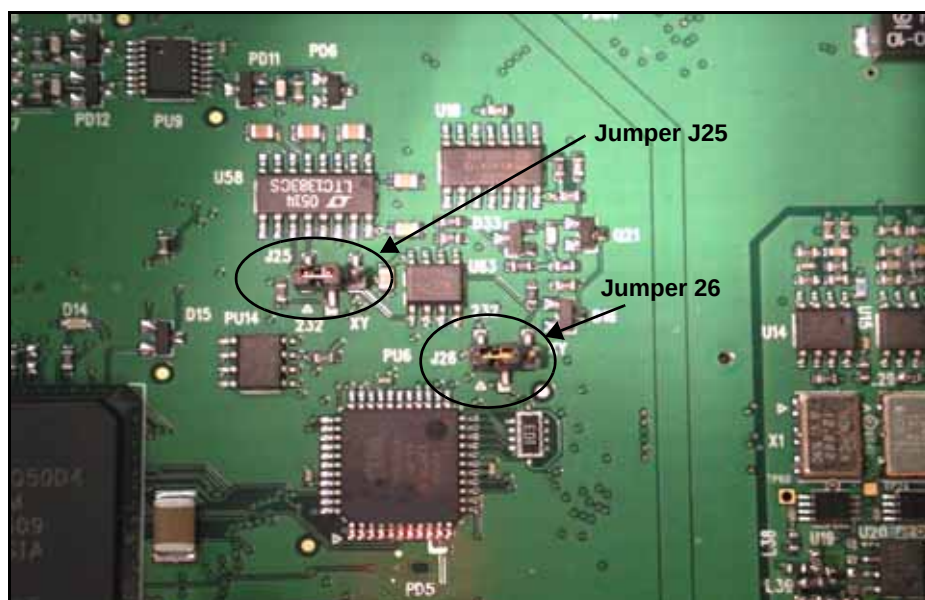

Figure 2-22. Jumpers for Serial Port A Format
- J25 and J26: Serial Port A (RS-232-A) format (see Figure 2-22 for the location)